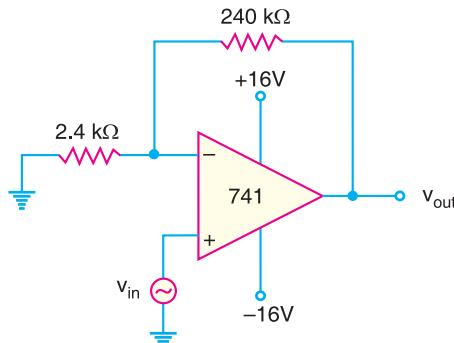

Fig. 25.57
**Example 25.32.** Calculate the output voltage from the noninverting amplifier circuit shown in Fig. 25.57 for an input of 120  $\mu$ V.